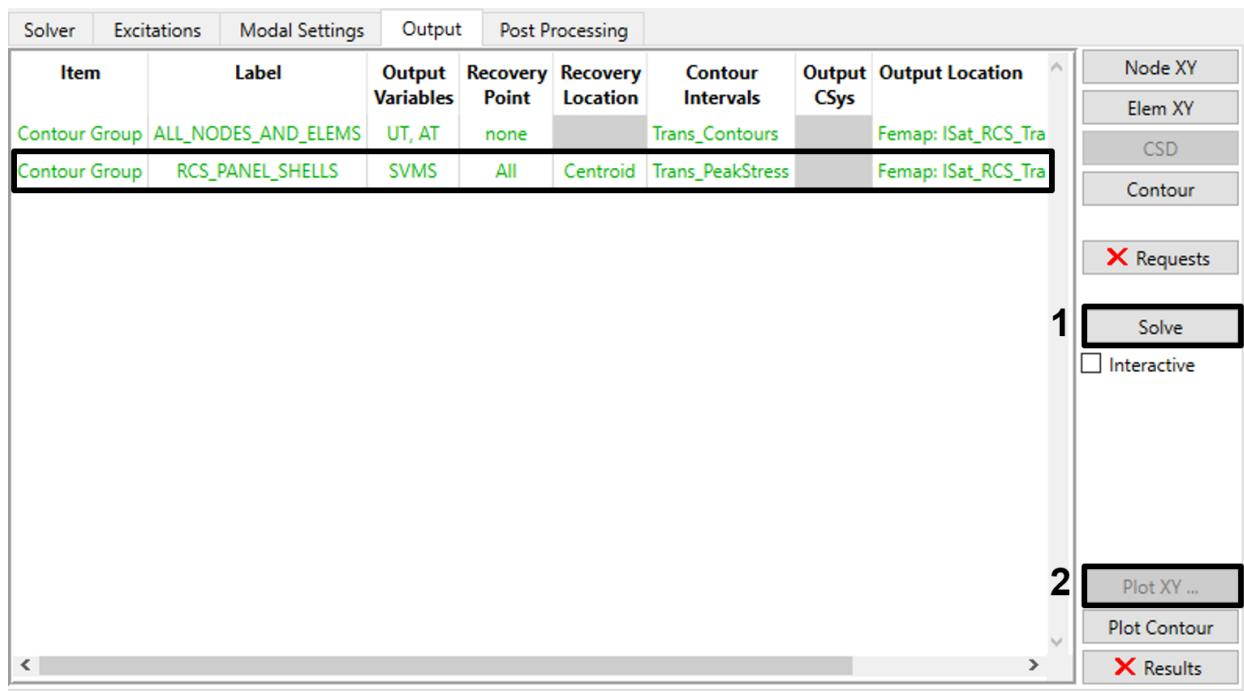
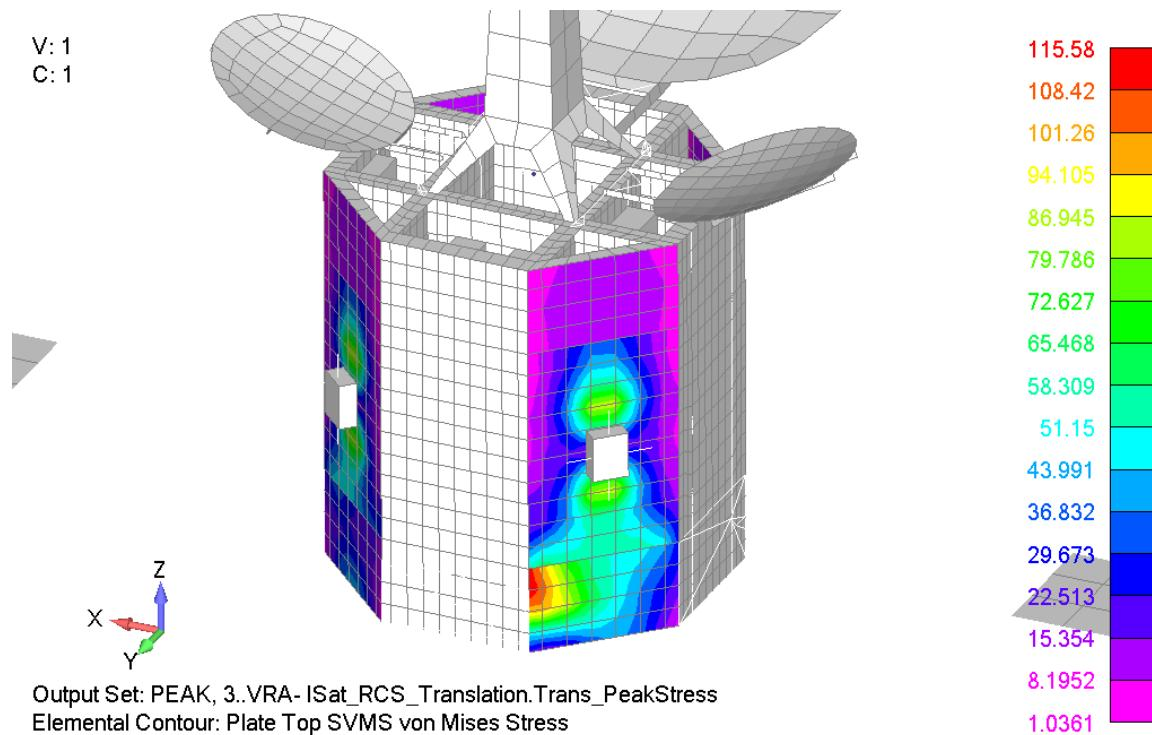
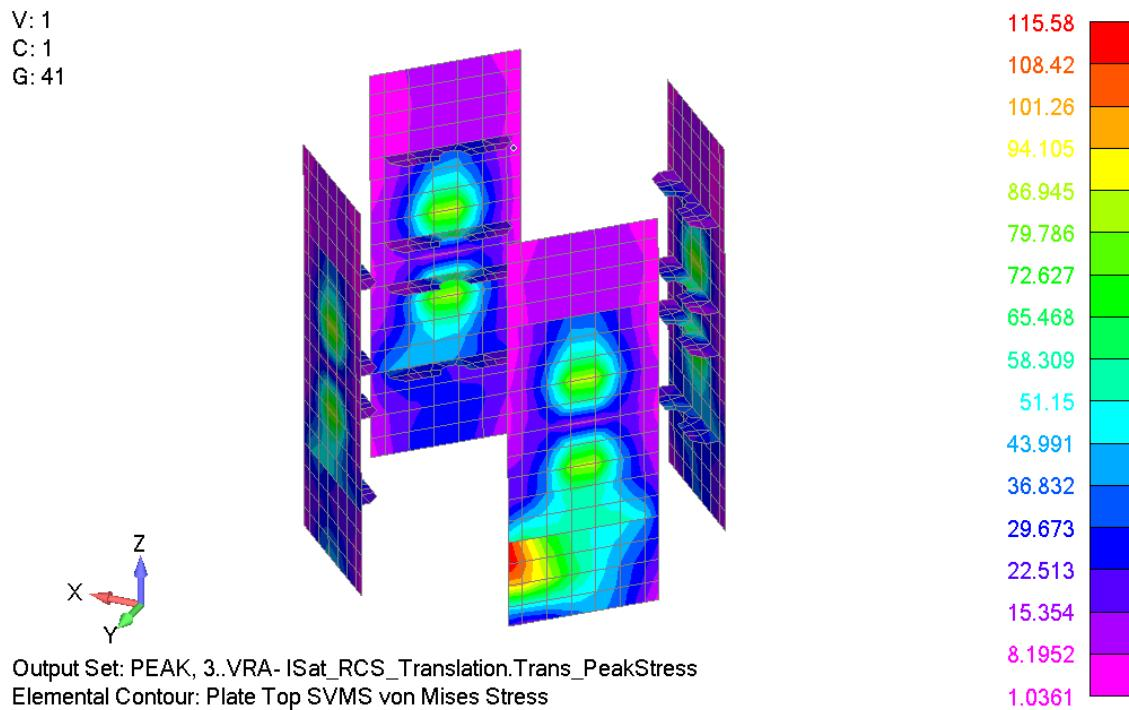

Figure 4-103. Select the RCS Panels contour request and plot its results.
Figure 4-104. Peak von Mises stress contours in RCS panels.
Figure 4-105. Von Mises results with only the RCS panels group displayed.
10. Solve the new contour request. When the solver finishes, select the new contour request in the table, then click **Plot Contour** (Figure 4-103). Vibrata will set Femap to display the results from the selected request (Figure 4-104). Since we only requested stresses for the RCS_PANEL_SHELLS group, you may want to display only that group (Figure 4-105).